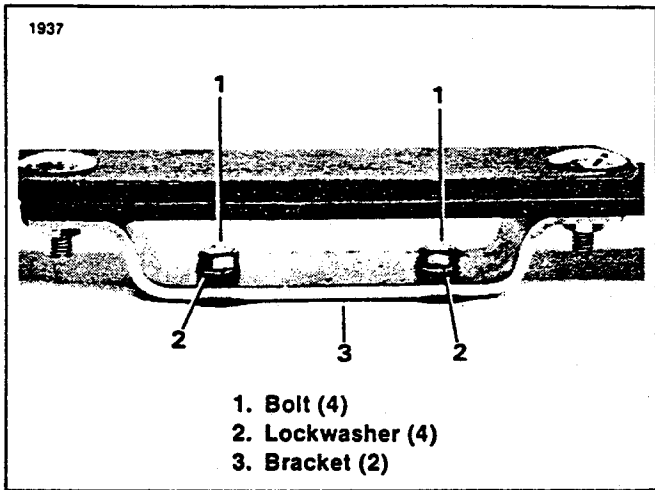

Figure 9-8. Body Hinge Screws
4. See Figure 9-8. Remove the four bolts (1), lockwashers (2), bumper brackets (3) which secure the body to the rear hinges.
2. See Figure 9-8. Attach bumper brackets (3), lockwashers (2) and bolts (1).